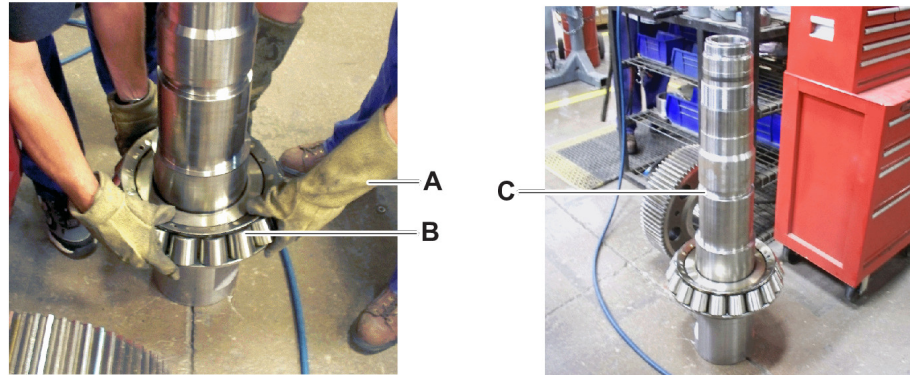

Figure 1
1. Remove the hot spindle bearing cone (Figure 1, item B) from the induction heater with safety gloves (item A). Lower the spindle bearing cone carefully over the spindle (item C) until it rests against the spindle shoulder.